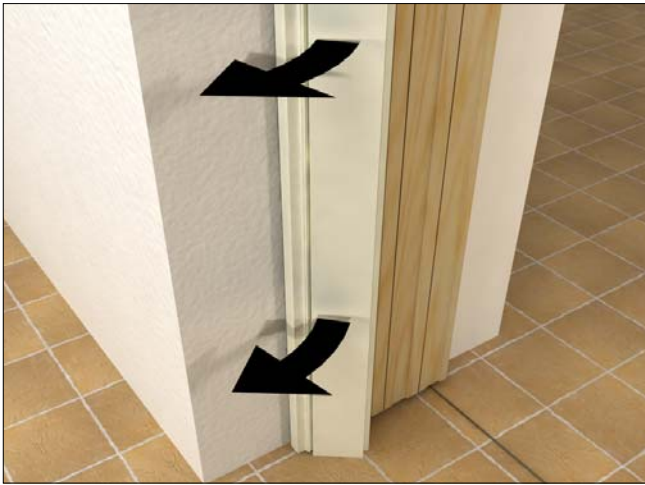

Figure 10
2. Remove side jamb part stops. See figure 10.